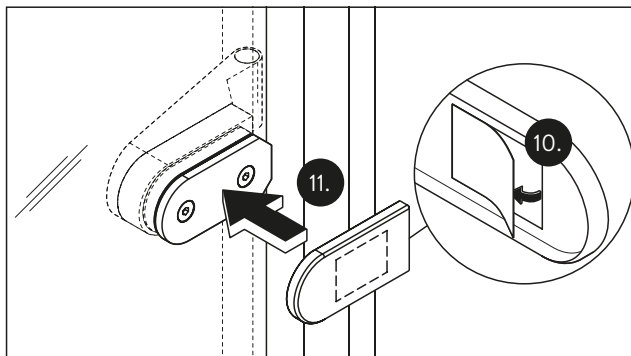

Abb. 25 Gluing the end cap in place
- Remove the protective film from the adhesive strips on the end caps (Fig. 25).
- Glue the end caps on the counter-plates (Fig. 25).